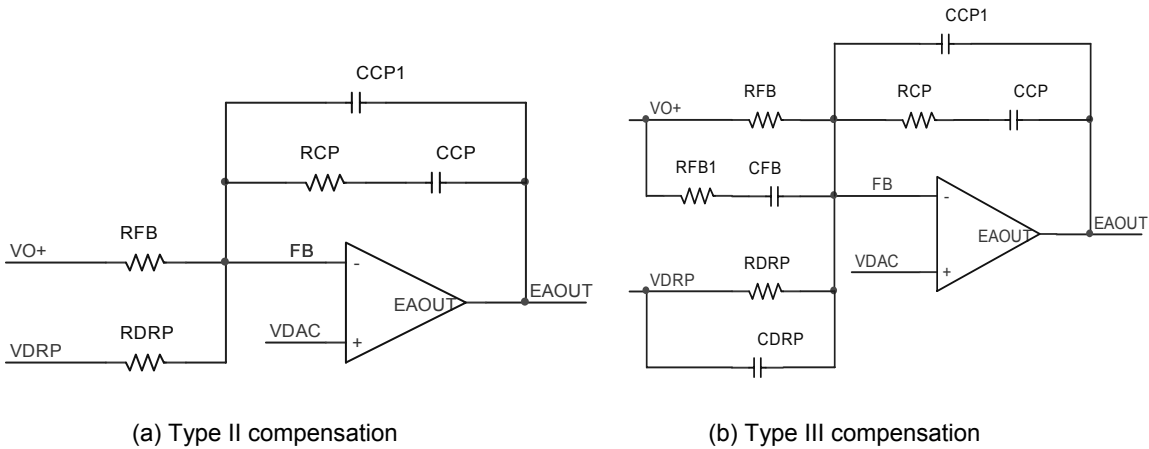

Figure 8. Voltage loop compensation network
Resistors R_{FB} and R_{DRP} are chosen according to Equations (13) and (14), and the selection of compensation types depends on the output capacitors used in the converter. For the applications using Electrolytic, Polymer or AL-Polymer capacitors and running at lower frequency, type II compensation shown in Figure 8(a) is usually enough. While for the applications using ceramic capacitors and running at higher frequency, type III compensation shown in Figure 8(b) is preferred.
For applications where AVP is not required, the compensation is the same as for the regular voltage mode control. For converter using Polymer, AL-Polymer, and ceramic capacitors, which have much higher ESR zero frequency, type III compensation is required as shown in Figure 8(b) with R_{DRP} and $CDRP$ removed.